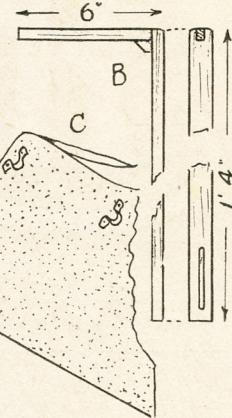

Fig. 3—Canopy supports and cover
The canopy arrangement is quite a simple affair. A canopy support should be made, this being shown at Fig. 3 (B). It consists of a post of $\frac{1}{2}$ in. or $\frac{3}{8}$ in. wood, 1 in. wide, and cut approximately to the length given, with a horizontal top piece of similar material, jointed in.